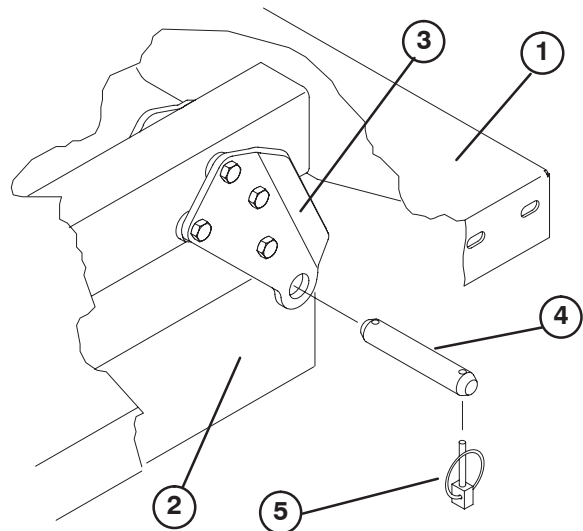

Figure 5
3. Remove clevis pins securing cylinder rod ends to bed mounting plates by pushing pins towards inside (Fig. 5).
4. Remove lynch pins and clevis pins securing pivot brackets to frame channels (Fig. 5).
Note: Assure rear pivot plates are bolted to the bed frame/channel so that lower end angles to the rear (Fig. 5).
2. Carefully set bed onto vehicle frame aligning rear bed pivot plate holes with holes in rear frame channel and install (2) clevis pins and lynch pins (Fig. 5).
3. With bed lowered, secure each cylinder rod end, to appropriate slots in bed mounting plates with clevis pin and lynch pin. Insert clevis pin from outside of bed with lynch pin toward outside (Fig. 5). Rear slots are for full bed installation and front slots are for 2/3 bed installation.